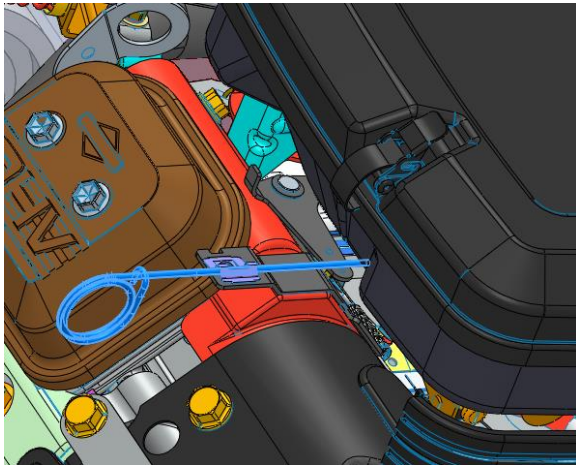

Figure 5: Fuel Throttle Control
- Push the gas throttle pin all the way to CLOSE position, see Figure 5.